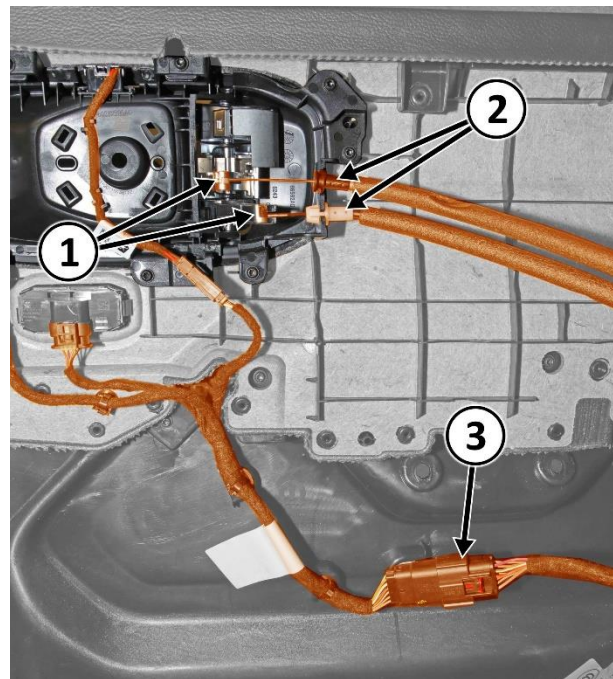

Figure 6 – Door Trim Panel
- (1) - Door
- (2) - Door Panel
10. On the back side of the door trim panel, disconnect the interior handle cables ferrules (2) and remove the barrel ends (1) from the interior handle (Figure 6).
- (1) - Cable Barrel Ends
- (2) - Cable Ferrules
- (3) - Electrical Connector
11. On the back side of the door trim panel, disconnect the wire harness electrical connector (3) (Figure 6).